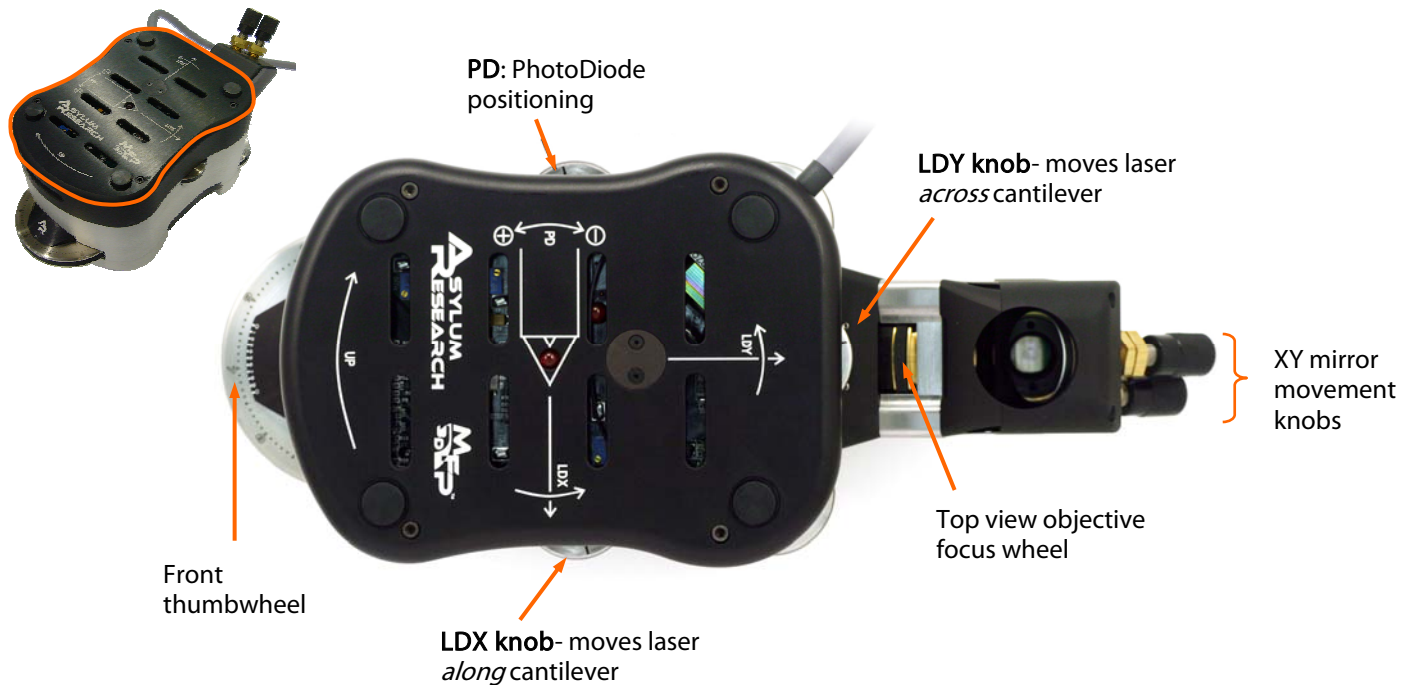
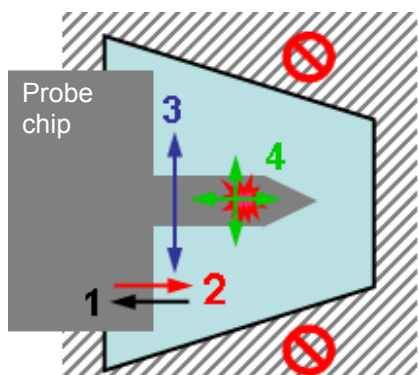

Figure 4.1: MFP-3D head with the various alignment thumbwheels labeled.
Figure 4.3: laser alignment pattern
- The top of the MFP-3D™ head is conveniently labeled (Figure 4.1), including the orientation of the probe (with an LED being in the center of the triangular cantilever). The thumbwheel on the right (of head) moves the SLD along the length of the cantilever (LDX), while the thumbwheel on the back (of head) moves it across the cantilever (LDY). The head has arrows indicating which way the SLD will go as they are moved CCW. The left side of the head has a thumbwheel that adjusts the vertical deflection on the position sensitive photodiode (PD).
✓ Place the IR card under the tip holder. Figure 4.3 (below) attempts to depict the procession needed to align the SLD. If the SLD spot isn't being blocked by anything, you can see it on the IR card. If you can't see it, move the SLD spot (using the LDX thumbwheel on the right side of the head, 'A' in Figure 4.1) along the length of the cantilever until you do- Figure 4.4A shows the visible SLD spot on the IR card. *If no spot is seen on the IR card, perhaps it may need charging for a few seconds under a fluorescent light.*
✓ Move the SLD spot back onto the support chip via LDX thumbwheel (no spot visible- depicted in Figure 4.4B; or Action 1-Figure 4.3).
✓ Move SLD spot until you see it on the card (spot visible- like Figure 4.4A; or Action 2-Figure 4.3);
▪ *If the SLD spot is outside the transparent quartz window, it won't be visible on the IR card. This is indicated by the hatched area in Figure 4.3.*
✓ Now use the LDY thumbwheel on the back side of the head ('B' in Figure 4.1) to adjust the beam perpendicular to the length of the cantilever (Sweep 3, Figure 4.3) WHILE MONITORING THE S&D METER.
➡ Maximize/ optimize the 'Sum' voltage signal using both LDX & LDY thumbwheels (Sweeps 4, Figure 4.3)
- To adjust the CCD image focus, use the thumbwheel in the optics housing on the back of the head ('D' in Figure 4.1): CCW move the focus towards the sample.
- To adjust the location of the viewing field of the CCD camera, use the X and Y translation knobs on the back of the optics housing ('E' in Figure 4.1).
This meter window is set up rather conveniently: If you have red in the deflection meter, you need to go negative to adjust to ~0 V (towards blue). The top of the head is labeled to tell you what way to go (positive or negative; see Figure 4.1; label 'C').
- ✓ Use the PD thumbwheel ('C' in Figure 4.1) to do this: if the deflection value in the S&D meter is negative (blue), move thumbwheel CCW to get to ~0V; if the deflection signal is positive, move the PD thumbwheel CW to ~0V.